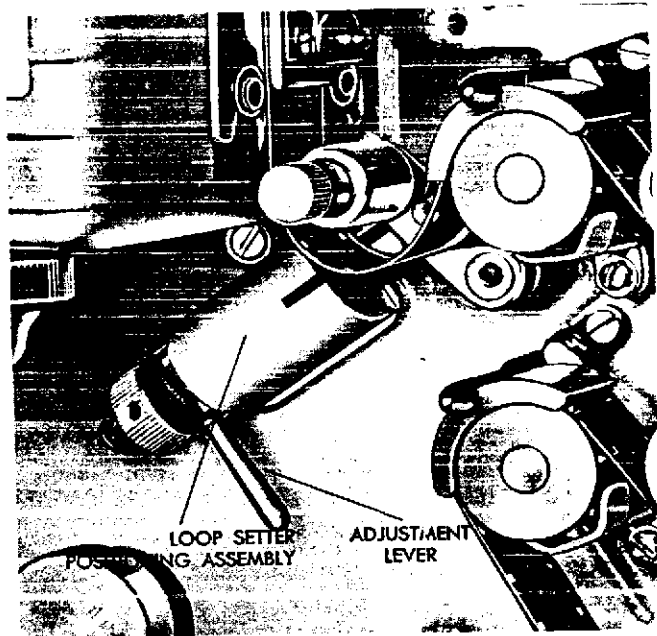

Figure 16. Loopsetter Positioning Adjustment
a. Figure 16 identifies the loop setter positioning assembly. When this mechanism is adjusted properly with the film to be projected, it performs two important functions: (1) it assures an uninterrupted film program by preventing the complete loss of the lower loop of film (when film with perforation damage is being used), and (2) it measures the correct size of lower loop of film, thus insuring perfect synchronization of the picture and the sound.
loop setter positioning assembly is required. However, if the picture is not steady but moves in a rapid jerky manner so as not to be visible, and if the projector makes a clicking noise, turn the film positioning adjustment lever (figure 16) gradually upward or downward, one notch at a time, until the picture is visible and the clicking noise is stopped. Then gently press the loop setter push button on top of the projector case down all the way and release it quickly. Do not force this button down. This will (1) set the lower loop to the precise size required for synchronization of the picture and sound and (2) assure an uninterrupted program by preventing the complete loss of the lower loop of film.